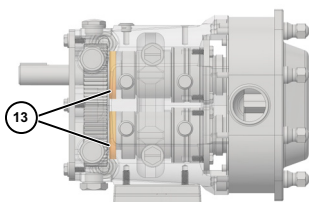

Figure 45 - Remove Rear Oil Seals
10. Press out and discard both rear oil seals in the gear case (Figure 45, item 13).